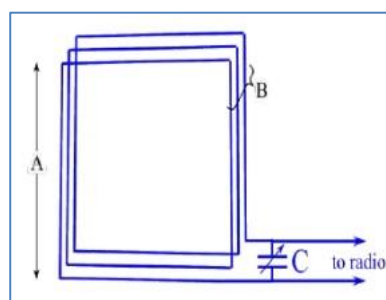

Figure 10.2: Square Loop antenna
1. Design a matching network (e.g., a series capacitor) for a square loop antenna as shown in the figure 10.2 to achieve a 50-ohm impedance match at the operating frequency. Calculate the value of the matching component.